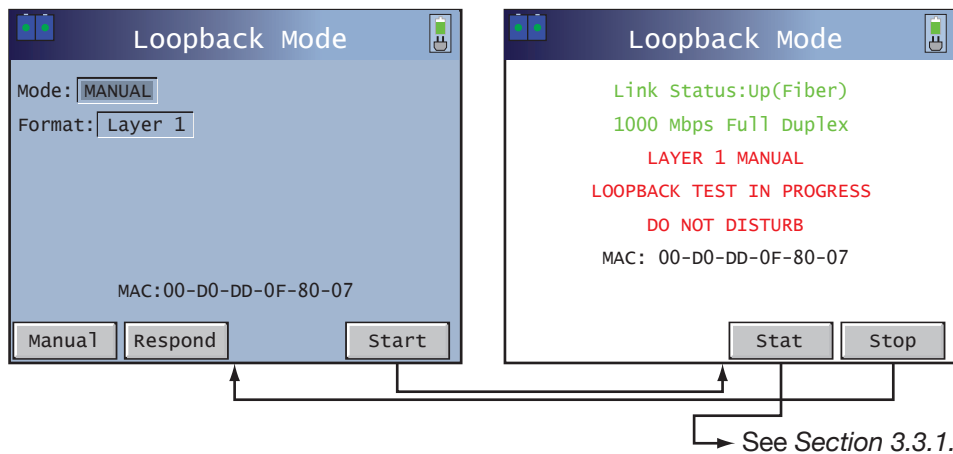

Figure 10 Manual Layer 1 Loopback Mode Screens
Manual: The Loopback mode screens for Manual Layer 1 are shown in Figure 10:
- Layer 1: If Layer 1 is selected, no further configuration is required. Press Start (F4) in the left screen shown in Figure 10 to begin the loopback. The right screen is then displayed. When finished, press Stop (F4).
- Layer 2/3: If Layer 2/3 is selected, no further configuration is required. Press Start (F4) to begin the loopback with the right screen shown in Figure 10. When finished, press Stop (F4).